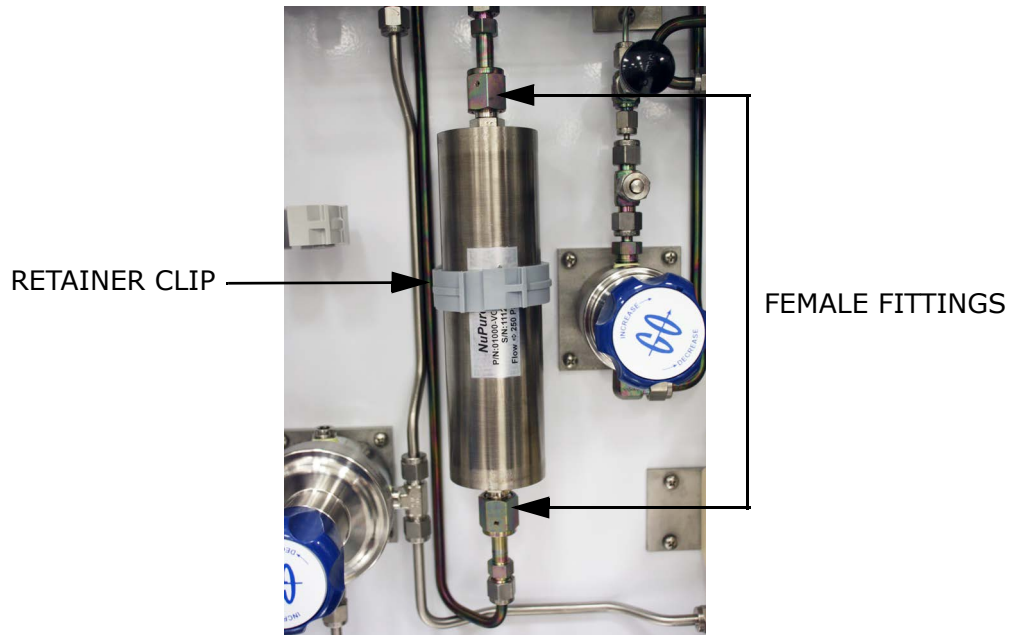

Figure B-18 Installed dryer
3. Using a wrench, loosen the female fitting at the top and bottom of the dryer. Refer to Figure B-18.